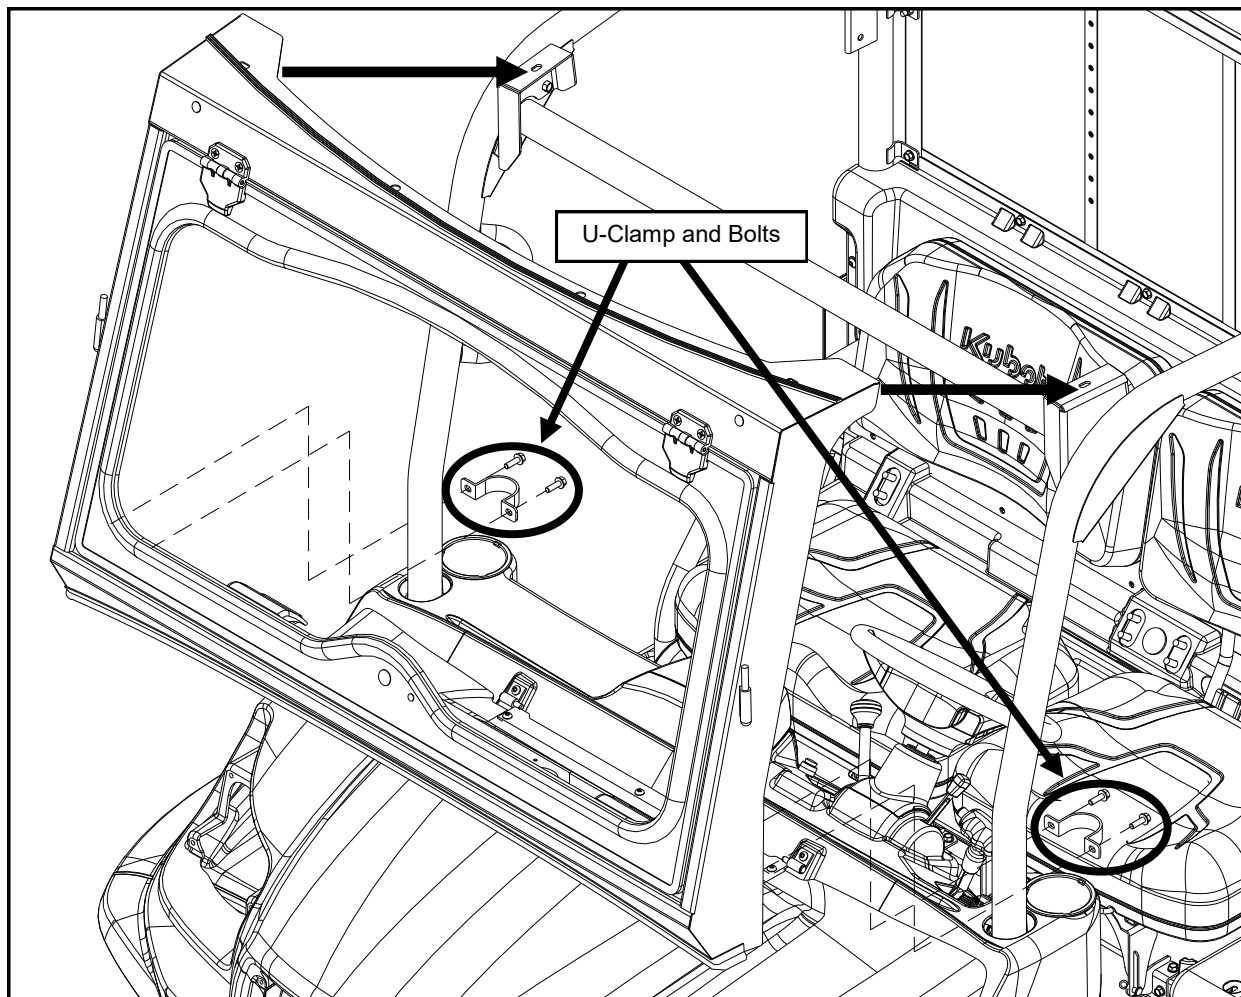

Fig. 2
2. Install the windshield so that the slots on the top surface of the windshield align with the slots in the top of the canopy mounts. See fig. 2.